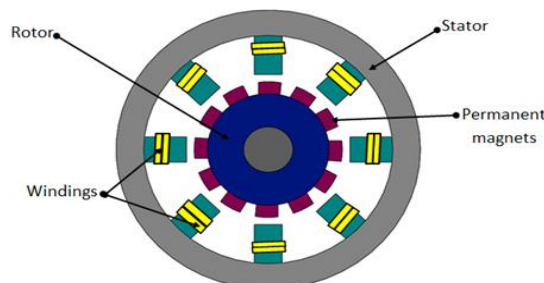

Fig. 3.45 Various parts of synchronous motors
A. Synchronous Motor – It is a type of motor in which the rotating speed of the rotor is the same as the rotating speed of the magnetic field. Suppose, the magnetic field is rotating at a speed of 1000 rotations per minute (RPM) and the rotor is rotating around 998 rotations per minute (RPM), in such case, the motor is said to be synchronized. Figure 3.45 illustrates the various parts of a synchronous motor.